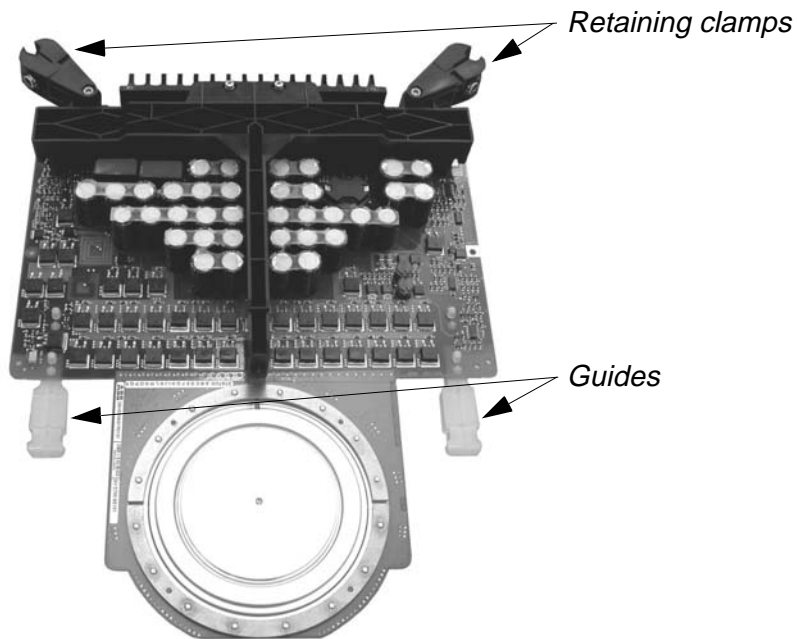

Figure 5-3 IGCT
- 5 In case the new IGCT is not fitted with retaining clamps and guides (see *Figure 5-3*) remove these parts from the faulty IGCT and mount